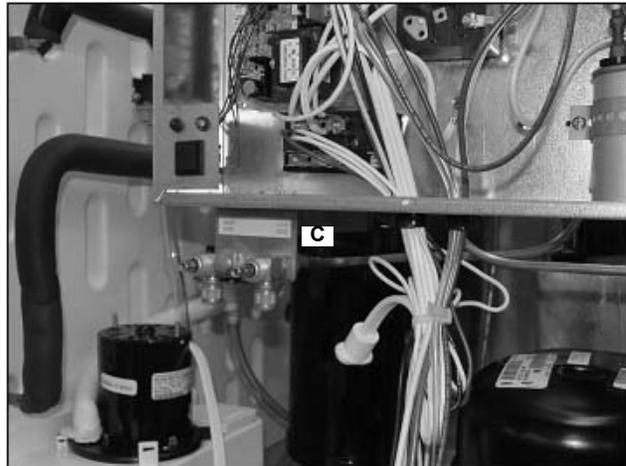

Figure 17.
13. Remove the 2 screws connecting the service valve bracket (C) to the control box (Figure 17).